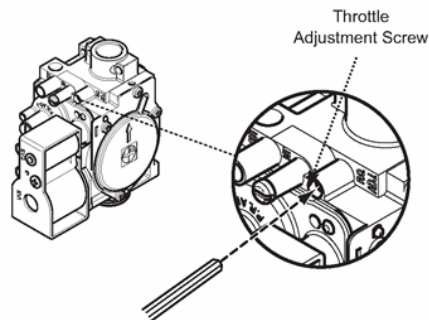

Fig. 61
**i** If a new gas valve has been fitted it is recommended that to assist the boiler to light prior to final setting, use a suitable hexagon key to wind out the Throttle Adjustment Screw (Fig. 61) until it is flush with the valve body, then turn the screw 4 full turns clockwise. If the boiler will not light, or the correct CO2 cannot be achieved contact the 'heateam' technical helpline.